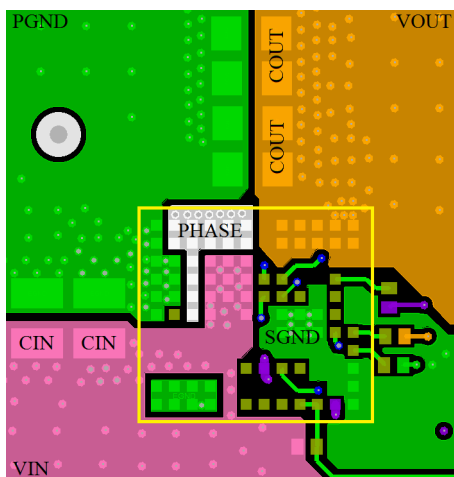

Figure 46. Layout Example - Top Layer
- Place the input capacitors and high frequency decoupling ceramic capacitors between VIN and PGND, as close to the module as possible. The loop formed by the input capacitors, VIN, and PGND must be as small as possible to minimize high frequency noise. Place the output ceramic capacitors close to VOUT. Use a copper plane to connect the output ceramic capacitors to the load to avoid any parasitic inductances and resistances. An illustrative layout example is shown in Figures 46 and 47.
| 1.00 | Feb 15, 2019 | <p>Changed "R4 gain" to "AV gain" throughout document.</p> <p>Updated typical application diagram on page 3.</p> <p>Changed "power supply" to "power module" on page 6.</p> <p>Updated Note 5 on page 9.</p> <p>Updated Figure 41 on page 20.</p> <p>Changed "regulator specifications" to "module specifications" on page 21.</p> <p>Added information about tie options on page 21.</p> <p>Added information about recommended resistors on page 31.</p> <p>Clarified information about NTC attachment on page 32.</p> <p>Corrected VDD and EN pin names on page 33.</p> <p>Changed "ISL8212M based DC/DC converter" to "ISL8212M power module" on page 35.</p> <p>Updated first item in Layout Guidelines on page 35.</p> <p>Updated Figures 46 and 47 on page 35.</p> <p>Correct setting pin names on page 35.</p> <p>Corrected information about board size on page 36.</p> <p>Updated disclaimer.</p> |